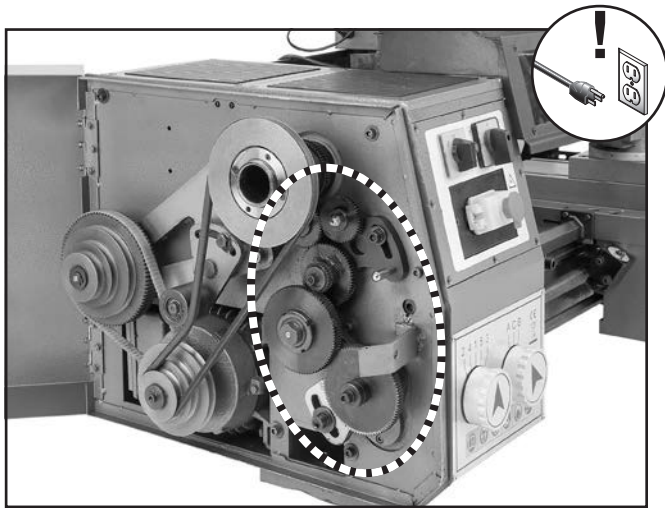

Figure 117. End gears.
The end gears, shown in **Figure 117**, should always have a thin coat of heavy grease to minimize corrosion, noise, and wear. Wipe away excess grease that could be thrown onto the V-belts and reduce optimal power transmission from the motor.
2. Remove end gear cover and all end gears shown in **Figure 117**.